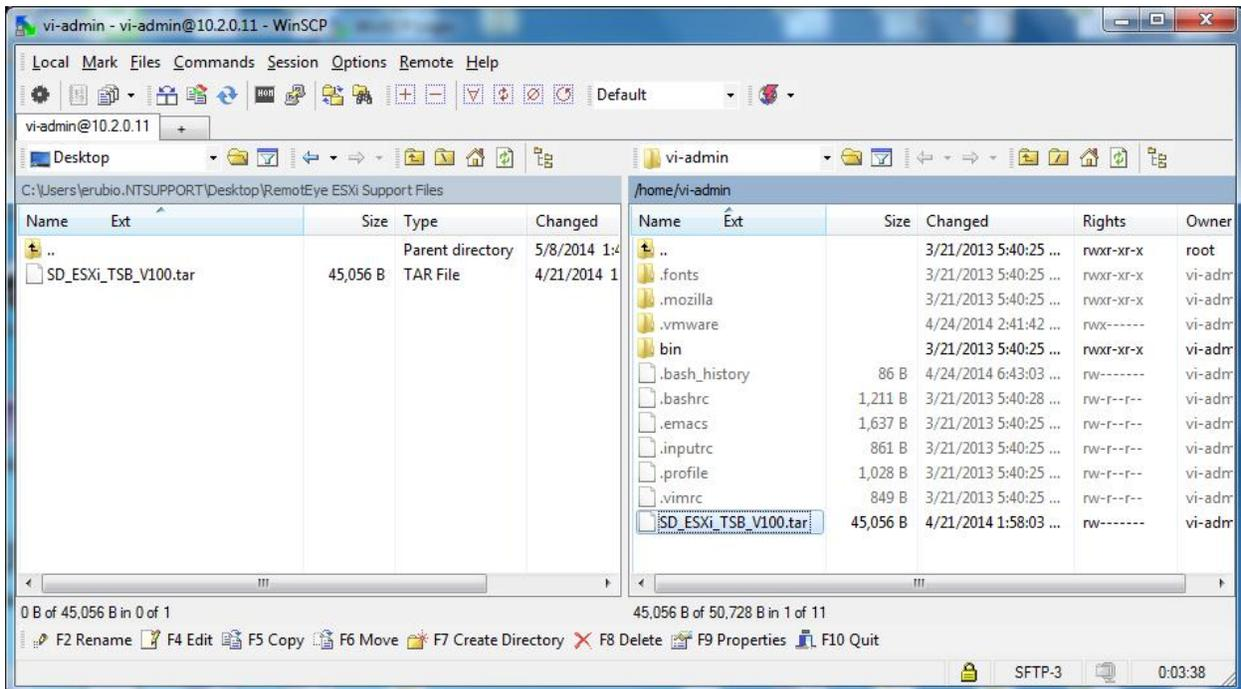

Figure 0-6 WinSCP vi-admin Screen
- 11.2. Locate **SD_ESXi_TSB_V100.tar** file (left side), then select the directory where you want it stored on the vMA (right side) and press the **F5** key. (See Figure 0-6)